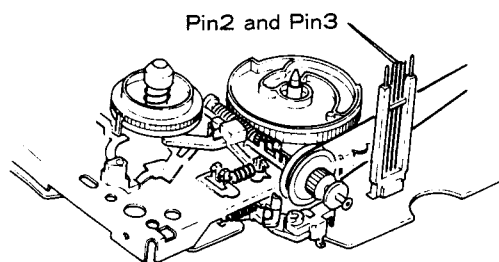

Fig. 1-2-1
2. Connect pins 2 and 3 of DECK TERMINAL board connector CN3. (See Fig 1-2-1)